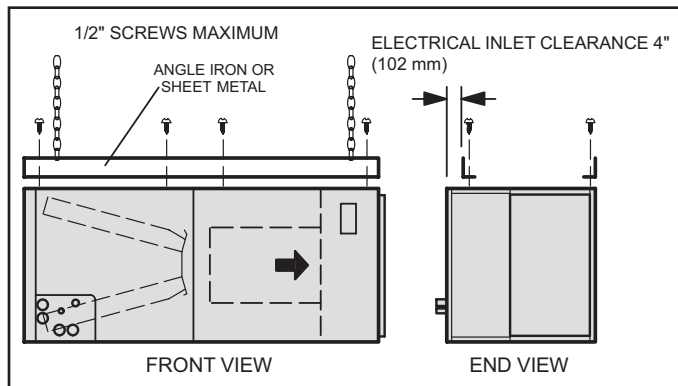

FIGURE 6. Suspending Horizontal Unit
- 4 - If the unit is suspended, the entire length of the cabinet must be supported. If you use a chain or strap, use a piece of angle iron or sheet metal attached to the unit (either above or below) to support the length of the cabinet. Use securing screws no longer than 1/2" to avoid damaging the coil or filter as illustrated in figure 6. Use sheet metal screws to connect the return and supply air plenums as required.
- 14 - If suspending the unit, it must be supported along the entire length of the cabinet. If using chain or strap, use a piece of angle iron or sheet metal attached to the unit (either above or below) so that the full length of the cabinet is supported. Use securing screws no longer than 1/2" to avoid damage to coil or filter, as illustrated in figure 6. Connect return and supply air plenums as required using sheet metal screws.